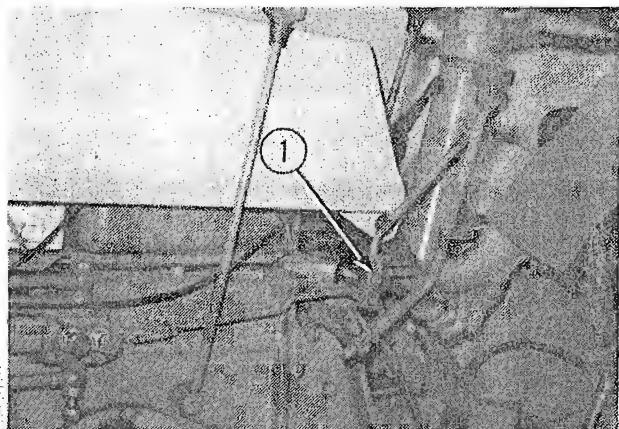

FIG. 4
- (5) Hydraulic lift lever.(1, Fig.4)